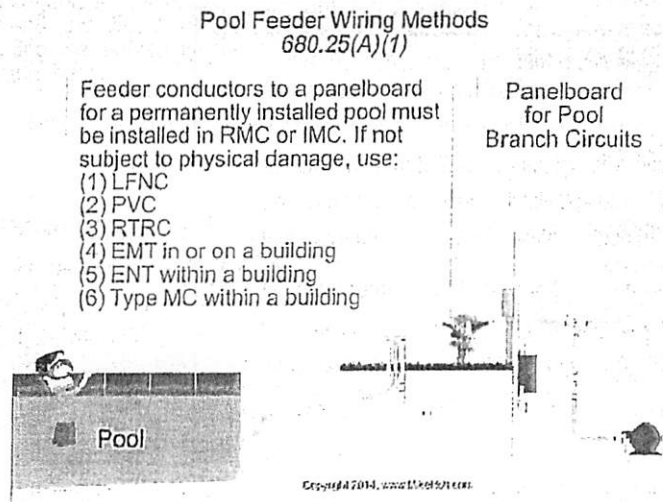

Figure 680-38
(1) **Feeders.** Feeder conductors to panelboards containing permanently installed pool, outdoor spa, or outdoor hot tub equipment circuits must be installed in rigid metal conduit or intermediate metal conduit. If not subject to physical damage, the following wiring methods are permitted: Figure 680-38